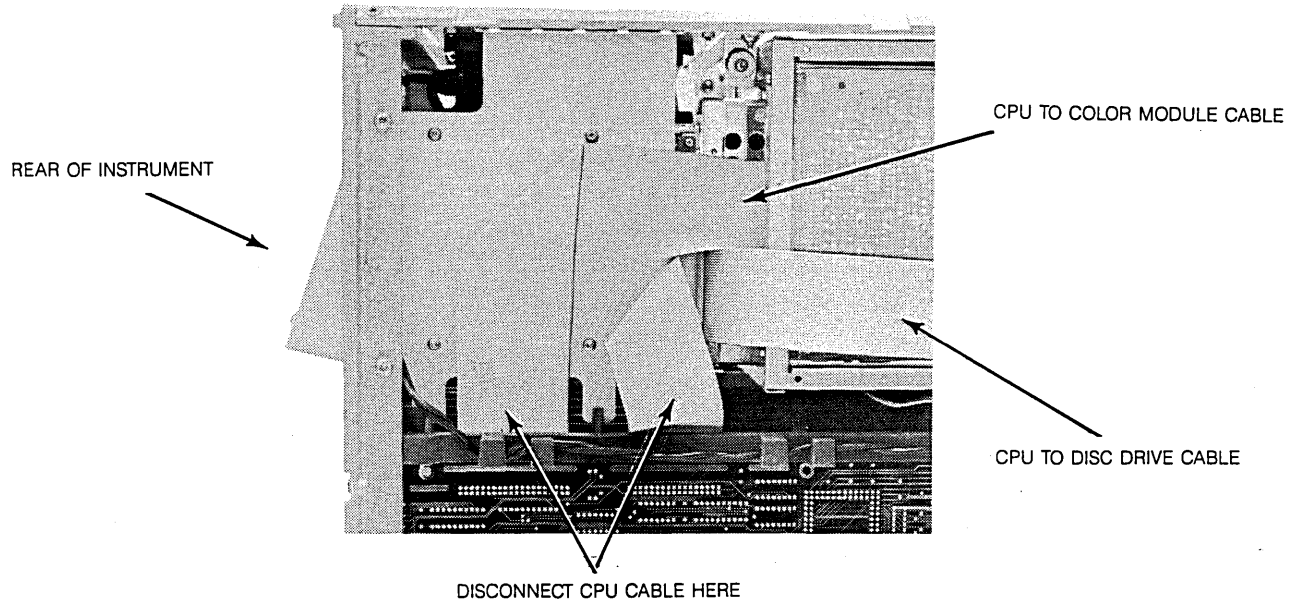

Figure 6-34. Microprocessor Cable Location.
- b. Remove bottom cover. Disconnect the two microprocessor cables. Note that the front cable is connected to the rear disc drive and the other cable is connected to the display module (see figure 6-34).